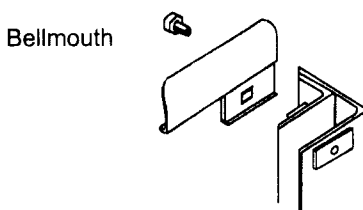

FIG. 8
12. Now that the guide assemblies are fastened and secured, the curtain must be fully rolled up and the bottom bar engaged to the bellmouth stops. (see Fig. 8) Test and adjust for proper balance at the header at this time, with slings still in place to prevent freefall.